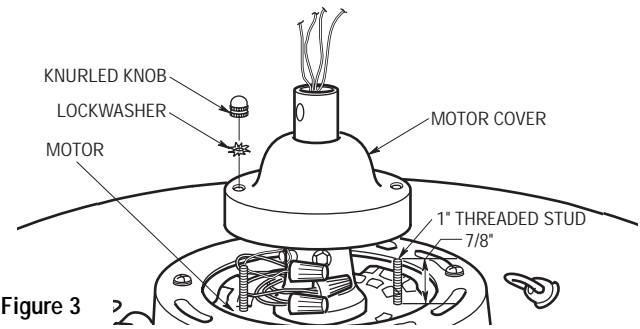

Figure 3
8. Screw two 1" threaded studs (supplied) into the motor (Figure 3). Leave approximately 7/8" of the stud extending above the motor. Coil the wires and wire connectors around the motor coupling, then slide the motor cover over the downrod and rotate the cover until the threaded studs protrude. Install two lockwashers (supplied) and knurled knobs (supplied) to secure the cover to the motor. All wires and wire connectors must be enclosed under the motor cover.